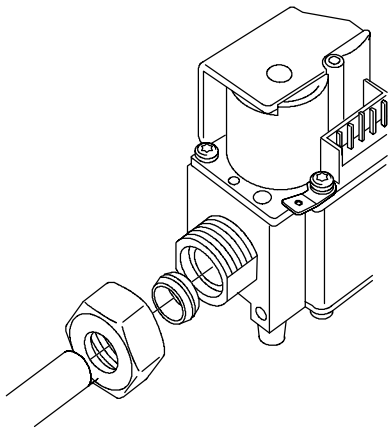

Fig. 5. External thread connection with nut and olive
- With $\frac{3}{4}$ " nut and olive (see fig. 5.)**